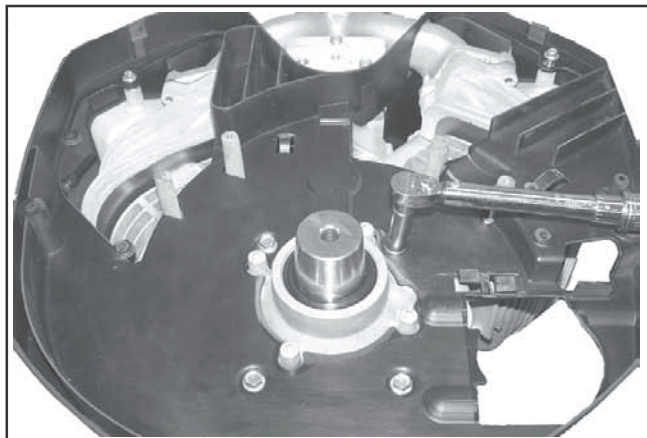

Figure 10-72. Installing Backing Shroud Assembly.
2. Install the backing shroud assembly and secure to the crankcase with the four M6 screws. Torque the screws to **10.7 N·m (99 in. lb.)** into new holes, or **7.3 N·m (65 in. lb.)** into used holes. See Figure 10-72.